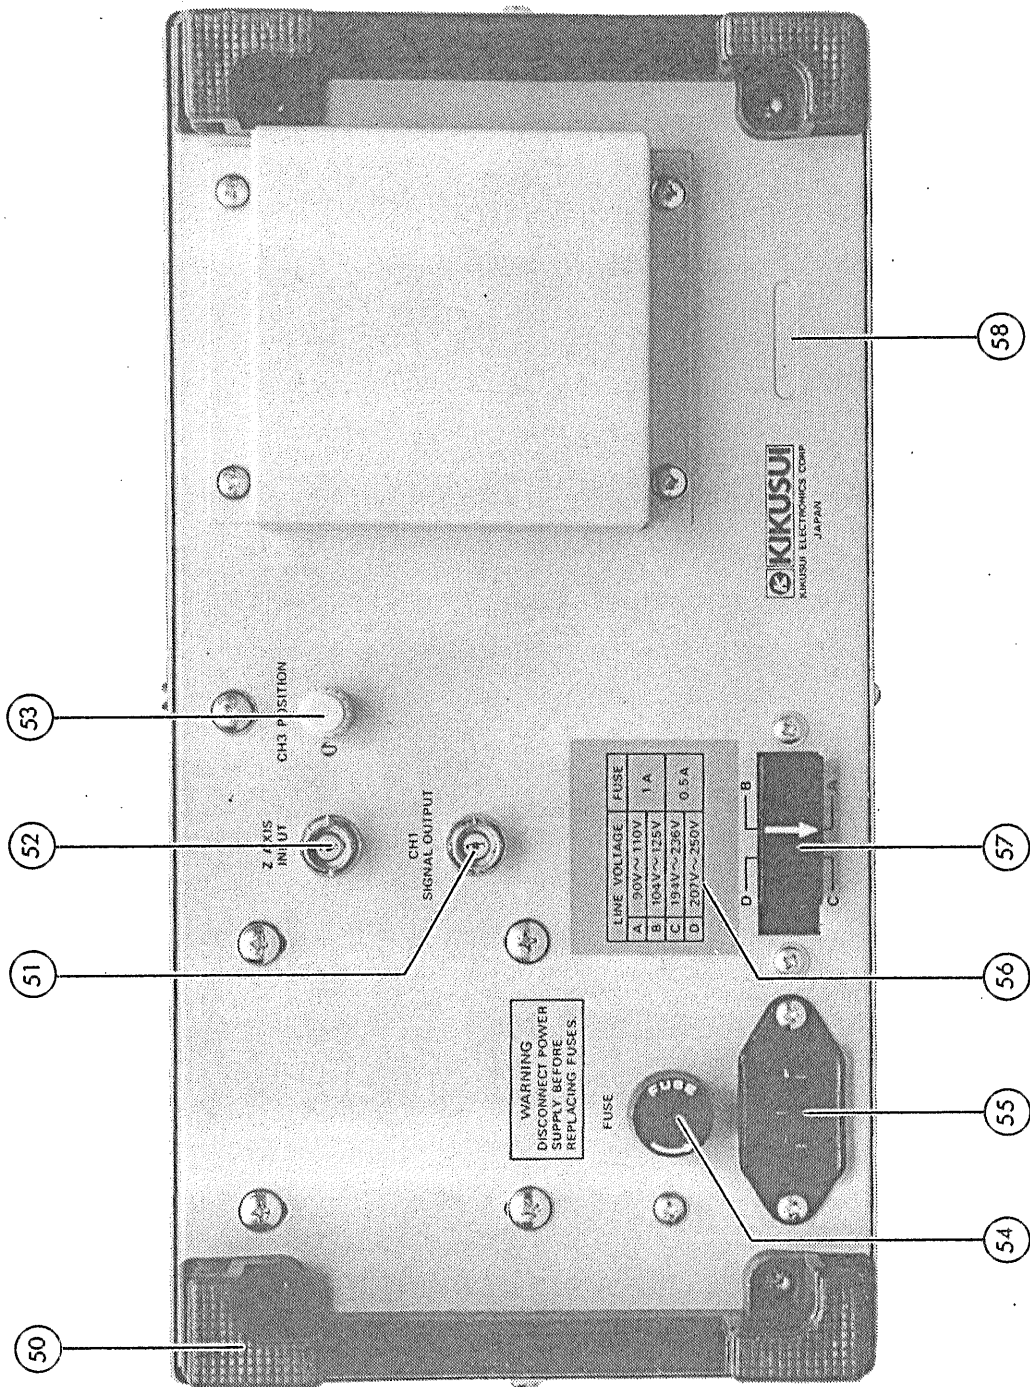

Figure 4-2 Rear Panel
4.2 Explanation of Rear Panel (See Figure 4-2.)
- o CH1 SIGNAL OUTPUT ... (51) This output terminal provides CH1 signal which can be fed to a frequency counter, etc.
- o Z AXIS INPUT (52) Input terminal for a external intensity modulation signal. Binding post terminal with 19-mm (0.75 in.) spacing.
- o CH3 POSITION (53) POSITION CONTROL for CH3, INT or EXT TRIG VIEWING.
- o FUSE (54) Fuse in the primary circuit of the power transformer. Fuse rating is as shown in the AC line voltage table (56) on the instrument rear panel.
- o AC power input connector (55) Input connector of the AC power of the instrument. Connect the AC power cord (supplied) to this connector.
- o AC voltage selector plug (57) For selecting the AC voltage of the instrument in conjunction with selector connector, as indicated with A, B, C, D symbols referenced to the AC line voltage table (56) on the instrument rear panel.
- o (58) This is the production number to identify which instruments were produced in the KIKUSUI factory. Please notify this number if you need our SERVICE.